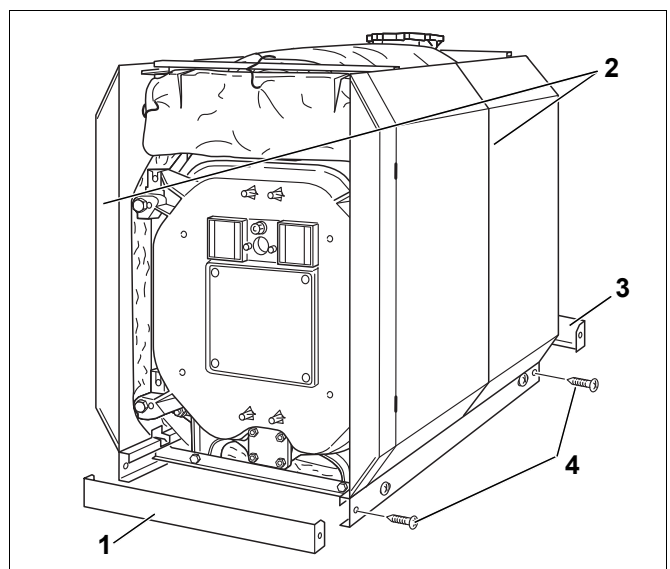

Fig. 51 Install the plinth rails
- When the side panels (Fig. 51, **[2]**) are vertically aligned, tighten the self-tapping screws (Fig. 51, **[4]**).
- Push the cross plinth rails (Fig. 51, **[1]** and **[3]**) from the front and rear into the longitudinal plinth rails. The angled part of the cross plate must always be down and point towards the boiler (Fig. 51).